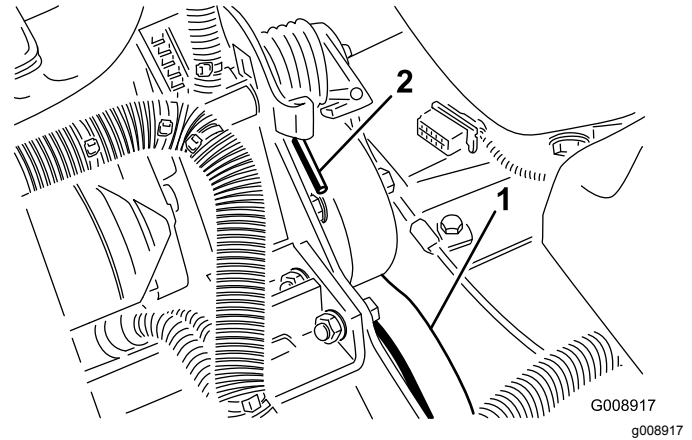

Figure 71
2. Push down and forward on the spring end (Figure 71) to unhook it from the bracket and release tension on the spring.